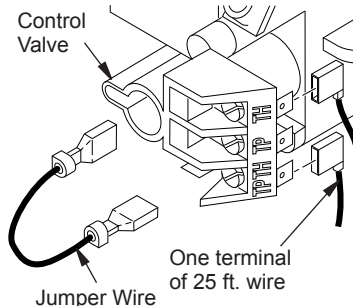

Figure 23 - Connecting Wire Terminals
1. Disconnect jumper wire from control valve (see Figure 23).
2. Connect one terminal of 25 ft. wire to "TPTH" terminal on control valve (see Figure 23).
3. Connect remaining wire terminal to the "TH" terminal on the control valve. Make sure that wire terminals are in the positions on your unit as pictured in Figure 23.
1. Connect one terminal of 25 ft. wire to "TPTH" terminal on control valve (see Figure 23, page 17).
2. Connect remaining wire terminal to the "TH" terminal on the control valve. Make sure that wire terminals are in the positions on your unit as pictured in Figure 23, page 17. If wires are not "crossed" the thermostat will not work.